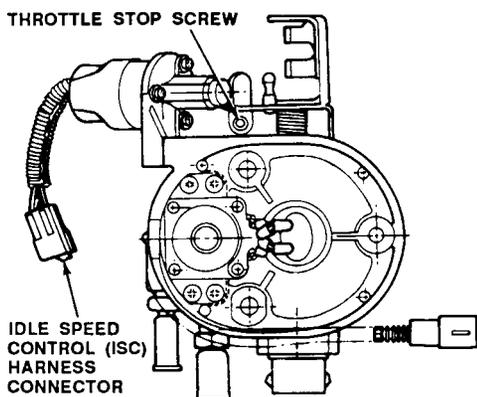

Figure F050-2
- 1.9L—625 \pm 25 rpm in drive (AT) or neutral (MT). If not within limits adjust the throttle stop screw (Figure F050-2). Stop the engine and reconnect the ISC motor.